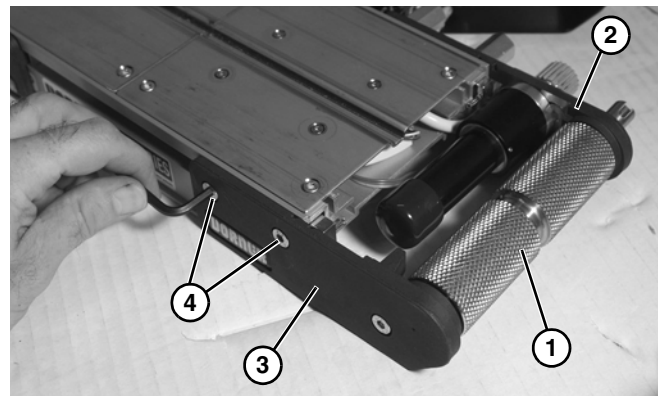

Figure 64
1. Install drive spindle (**Figure 64, item 1**) into head plate (**Figure 64, item 2**). Install head plate (**Figure 64, item 3**) and install screws (**Figure 64, item 4**).